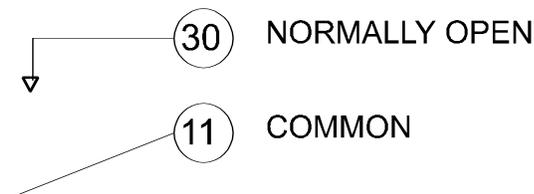

Figure 9. Form A Relay (5) contacts
The Form A relay has a common and a normally open (NO) contact. Figure 9 shows the schematic for a Form A relay, like those connected at relay 5 through relay 7.